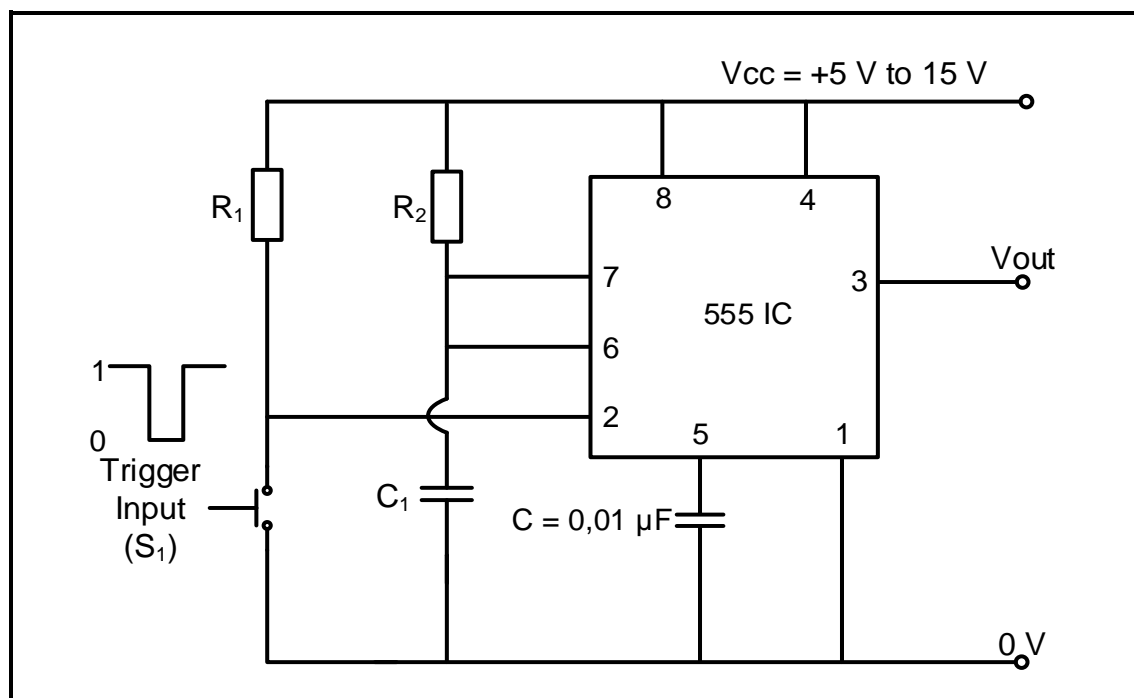

FIGURE 4.2: 555 IC MULTIVIBRATOR
4.2 Refer to FIGURE 4.2 below and answer the questions that follow.
- 4.2.1 Identify the multivibrator in FIGURE 4.2. (1)